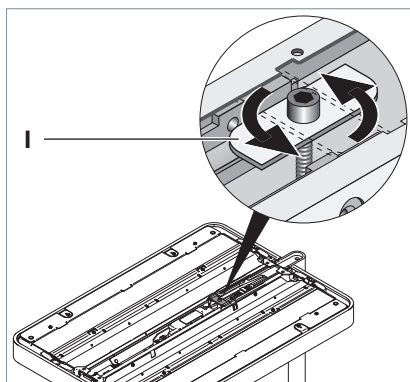

Fig. 4: Rotating the adjusting plate.
- Slightly lift the light head and rotate the adjusting plate **I** by 90°, see Fig. 4.